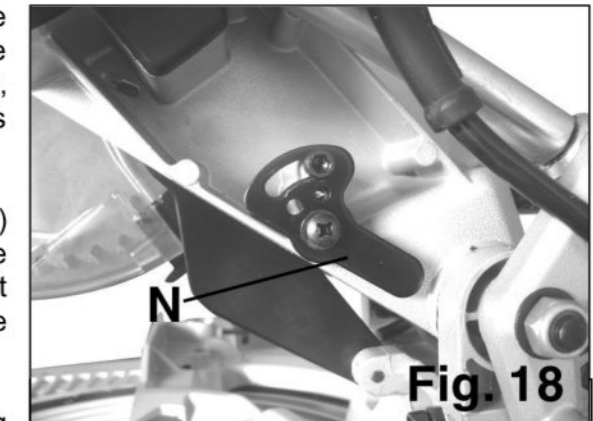

Fig. 18
3. To adjust the depth stop, move the limiter (N) to the left or to the right according to the desired depth Fig.18. For more depth, drag it to the right, and for a reduced depth, move the limiter to the left.